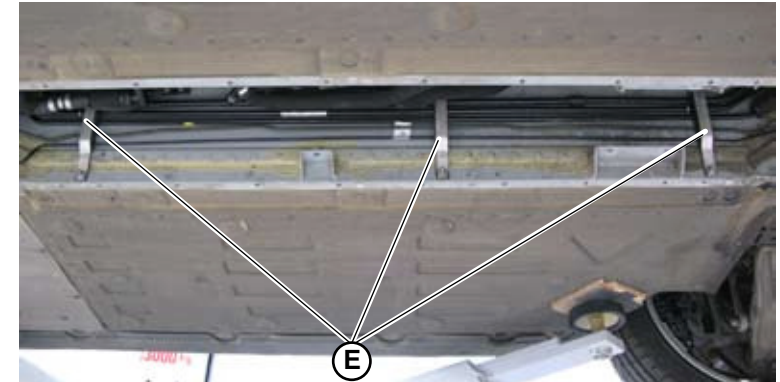

Fig.12
5. Fasten the three clamps (**E-Fig.12**) securing the brake vacuum pump pipe to the center console.